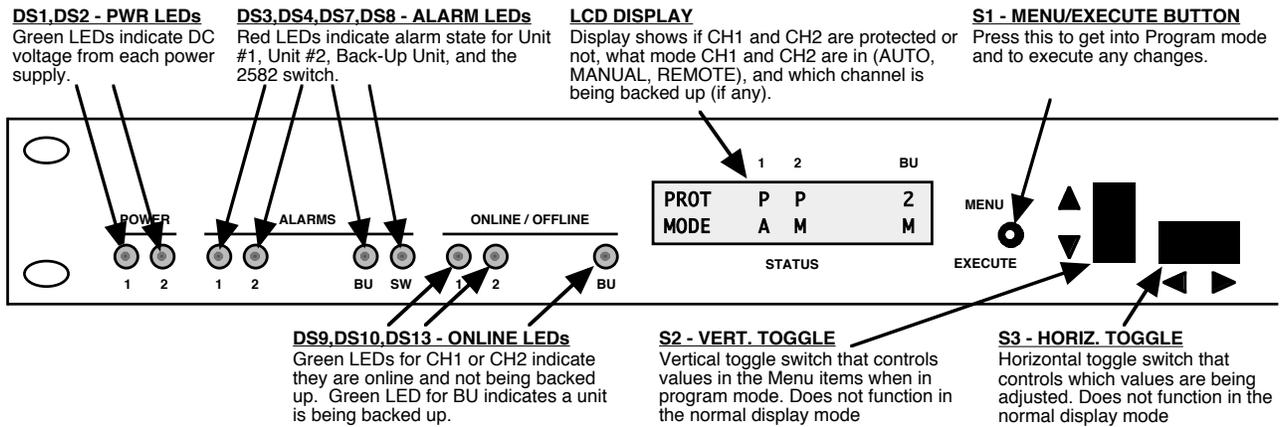

FIGURE 2.2 2582-122 Front Panel Controls and Indicators
Figure 2.2 shows the front panel controls and indicators.
5. Be sure DS1 & DS2 (green, DC Power) are on and DS3 to DS8 (red, Alarm) are off (Figure 2.2).
Alarm indications appear on the LEDs (see figure 2.2).